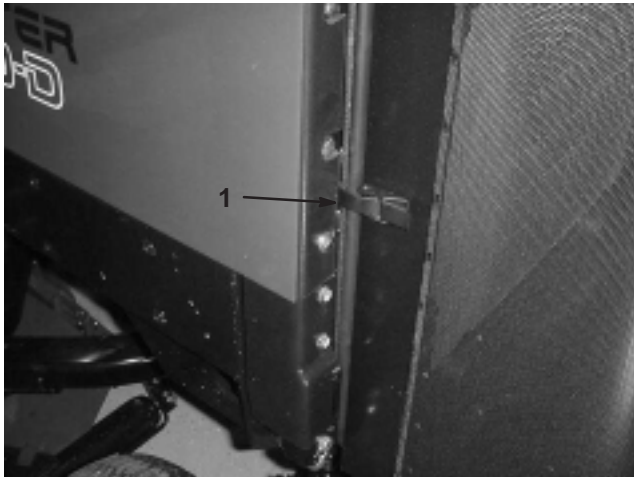

Figure 33
1. Unlatch and swing open rear screen (Fig. 33). Clean the screen thoroughly of all debris.